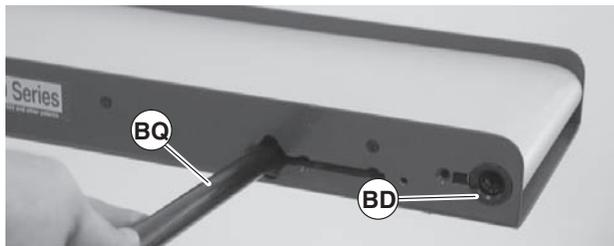

Figure 53
7. Insert pulley installation tool (Figure 53, item BQ) into opposite side of conveyor and push retaining sleeve (BD) into pulley until flush with conveyor frame.